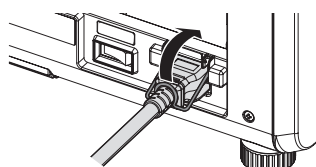

Fig. 1
- 2) **Raise the power cord holder fixing the power cord upward. (Fig. 1)**